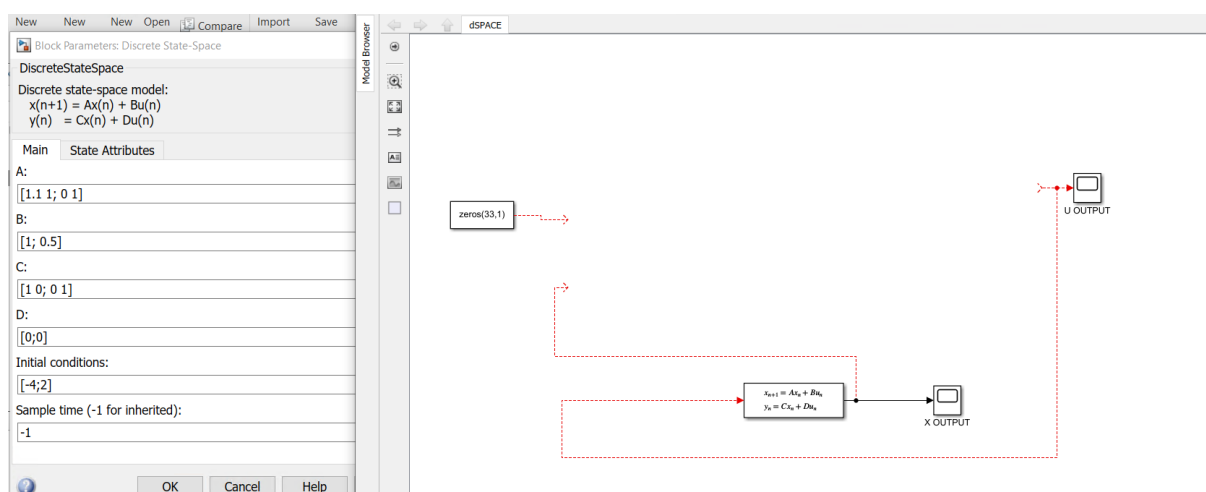

Figure 13.30: Populate the Simulink model.
- 2) Populate the Simulink model with the system you want to control (see Figure 13.30).